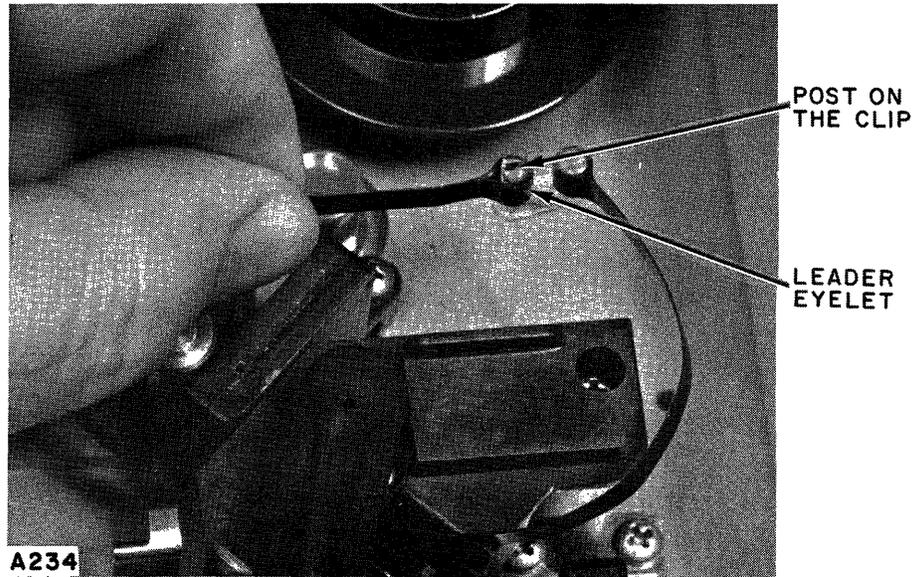

Figure 4-7. Connecting the Leader Eyelet to the Post on the Clip
- i. Connect the leader eyelet to the post on the clip, making a loop, as pictured in figure 4-7. Make sure there are no twists in this loop.